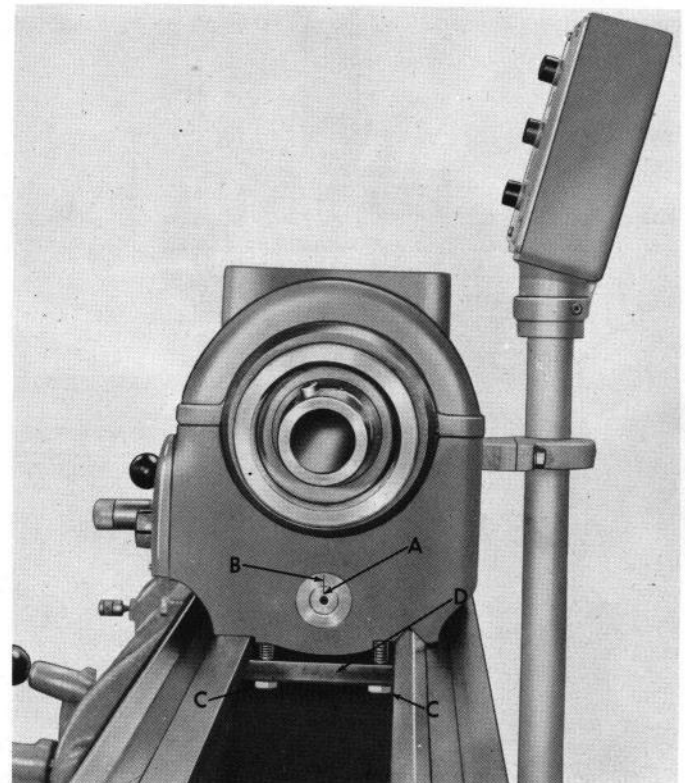
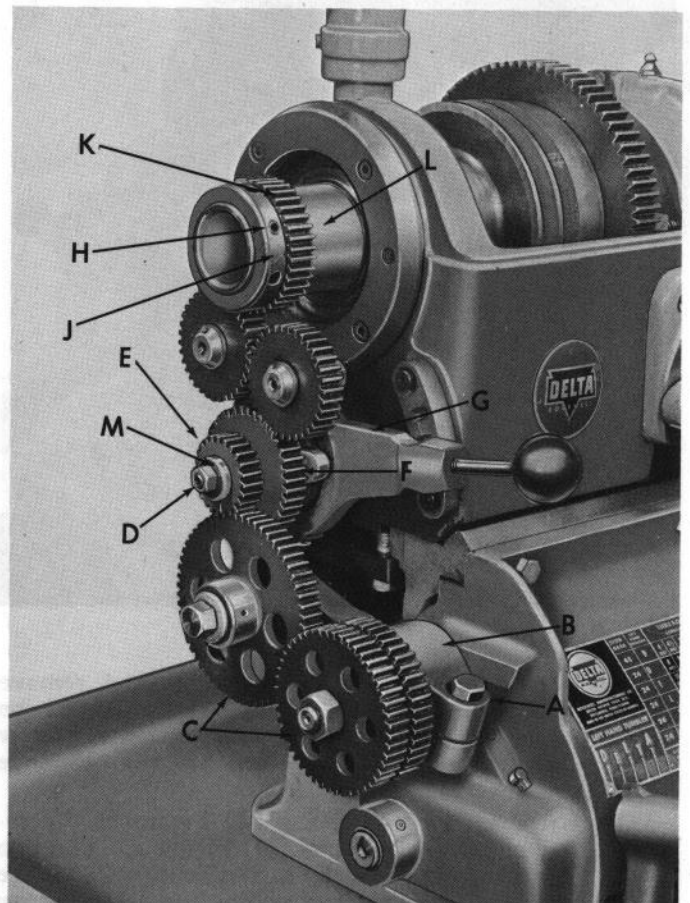
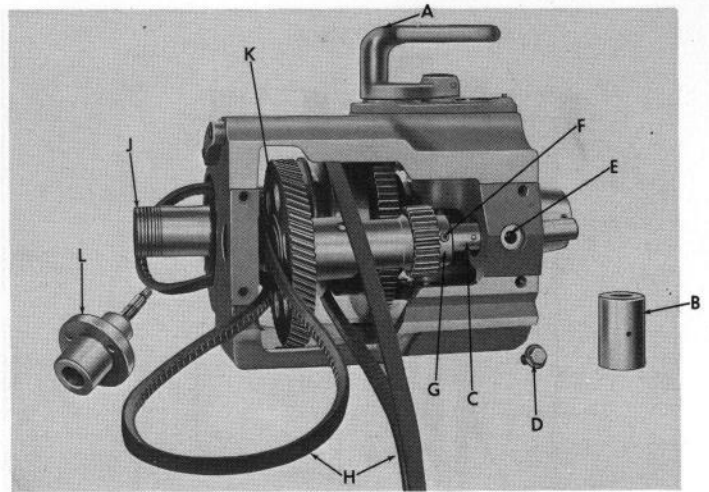
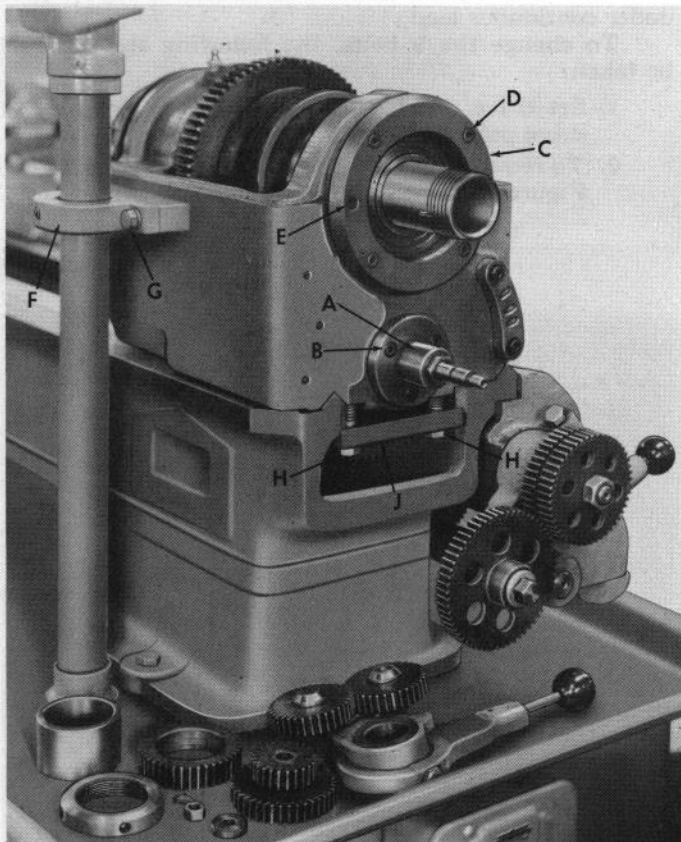

Figure 9
Figure 14
Figure 16
Figure 15
No adjustment of back gears is necessary, since all the parts are factory fitted and the teeth meshed with proper back lash and the whole assembly dowelled. If, however, the back gears have been disassembled, align the witness marks (A) and (B) Figure 9, to obtain the proper tooth setting when reassembling the back gears.
7. Loosen bolt (A) Figure 14, of the gear train (C). This allows intermediate gear bracket (B) to be rotated counterclockwise disengaging the gear train.
8. Remove nut (D) Figure 14, washer (M), compound gears (E), and (F), reversing gear bracket (G). Remove shoulder bushing (A) Figure 15, by removing 3 screws (B) Figure 15.
11. Disconnect bracket (F) Figure 15, between headstock and 1" electrical conduit pipe supporting pushbutton station by removing two bolts (G) Figure 15.
12. Remove headstock from bed casting by removing the four mounting bolts (H) Figure 15 and (C) Figure 9 which secure the mounting plate (D) Figure 9 and (J) Figure 15, to the bed. Lay headstock on the side with drive selector lever up. See Figure 16 (A).
13. Remove bearing (B) Figure 16 which supports the lower back gear shaft (C) by removing bolt (D) from hole (E) on the bottom of the headstock.
14. Loosen set screw (F) in collar (G) Figure 16, slide shaft (C) to the right as far as necessary — do not remove from headstock.
15. Remove old belts (H) Figure 16, by slipping loop through outboard spindle bearing hole past the end of the spindle (J) and back through hole and down past back gears (K).
17. To reassemble, fasten shoulder bushing (L) Figure 16 to headstock.
18. Put selector lever (A) Figure 16, into direct drive position.
9. Loosen set screw (H) Figure 14 and remove spindle nut (J). **CAUTION:** Care should be taken not to lose the brass plug below set screw (H). Remove gear (K) and its key. Remove spacer (L) Figure 14.
10. Remove bearing housing (C) Figure 15, by removing four set screws (D) Figure 15. The two $\frac{3}{8}$ -16 tapped holes (E) in the housing flange are provided as a means of pulling the flange. Screw two $\frac{3}{8}$ -16 x 2" bolts in these tapped holes and
19. Push shaft (C) Figure 16, into shoulder bushing (L).
20. Replace bearing (B) and bolt (D) Figure 16. Care must be taken to see that witness mark is pointing toward the spindle nose.
21. Check to see if witness mark on shaft (A) Figure 9 and bearing (B) Figure 9, coincide — if not, remove bolt (D) and bearing (B) Figure 16, and repeat steps 19 and 20 rotating the shaft until the helix gears mesh in the correct position so that the witness marks coincide.
22. When witness marks coincide insert and fasten bearing (B) Figure 16, with bolt (D) Figure 16. Move back gears to left side and back up with collar (G) and tighten (F) Figure 16.
24. Insert extended loose ends of belts (H) Figure 16, through bed and chip pan opening while placing headstock on bed ways.
26. Assemble mounting plate (D) and bolt (C) Figure 9 and plate (J) and bolt (H) Figure 15. End of head casting should be approximately flush with end of ways of bed, before tightening above screws.
27. Remove two bolts in hole (E) Figure 15 and assemble bearing housing and bearing (C) over spindle and enter into headstock bore. Carefully start the bearing housing into the head casting and approximately line up holes (D) with tapped holes in headstock. Since this is a light press fit, it will be necessary to use a rubber mallet around the flange, driving the housing flange tight against the headstock. To line up the bolt holes for bolts
(D) Figure 15, insert $\frac{3}{8}$ -16 machine screw into hole (E). Hold a piece of hard wood against the side of the machine screw and pound on this wooden block to rotate the housing to desired location. Assemble four screws (D) Figure 15 and remove above mentioned $\frac{3}{8}$ " machine screw.
28. The bearing in the housing is a light press fit on the lathe spindle. Move this bearing into place. One method is to thread the bearing nut (J) Figure 14, against this bearing using the spacer and gear (L) and (K) as spacers to force bearing into place. Then remove spanner nut and gear.
29. Assemble key and gear (K) Figure 14, spanner nut (J) and replace brass plug and set screw (H). Tighten nut on spindle as tight as possible and lock with set screw (H). Note: bearing will not bind since it "floats" on outer race — see description B2, page 3 and Figure 5.
30. Finish assembling the balance of the gear train, switch bracket (F) Figure 15, gear train cover, and headstock cover.